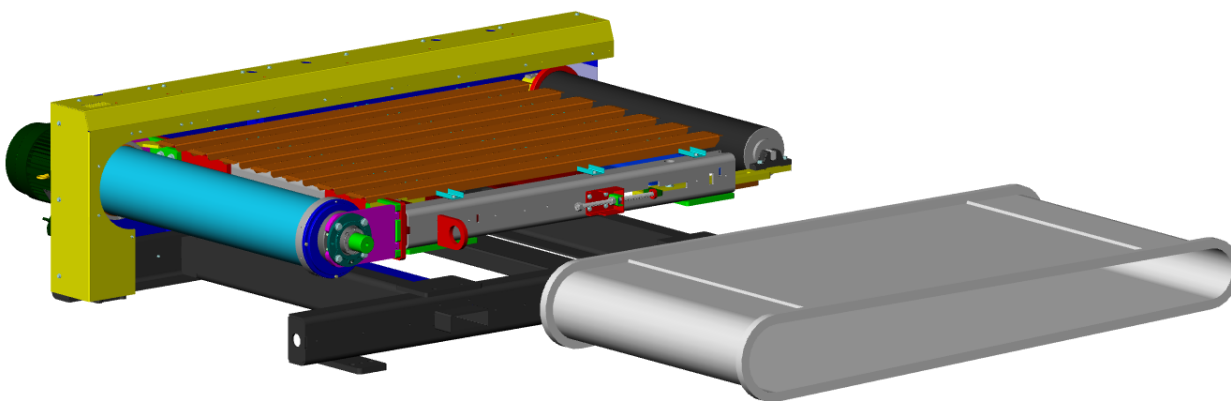

Figure 5
6. Remove the belt by sliding it out over the pulleys and upper frame assembly. See **Figure 5**.